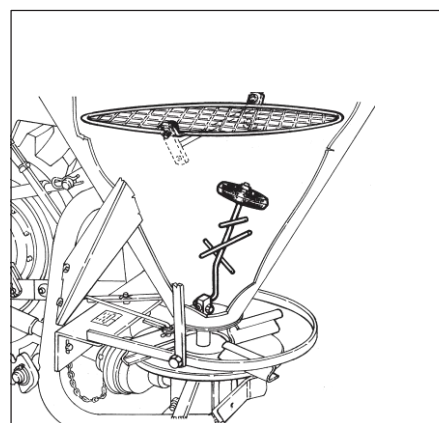

Fig.12
- Articulated agitator kit for powder fertilizers (Fig.12)